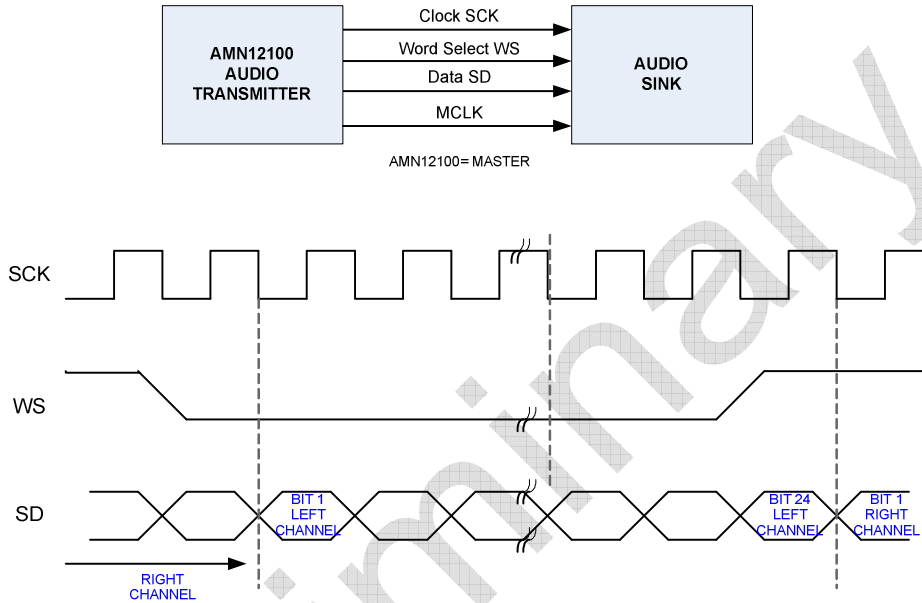

Figure 5: I²S Simple System Configurations and Basic Interface Timing
The AMN12310 supports a standardized communication structure inter-IC sound (I²S) bus. As shown in Figure 5, the bus has three lines: continuous serial clock (SCK), word select (WS) and serial data (SD). In addition, it has a MCLK signal which is synchronized to and a multiple of the WS. The external device generating SCK and WS is the AMN12310.